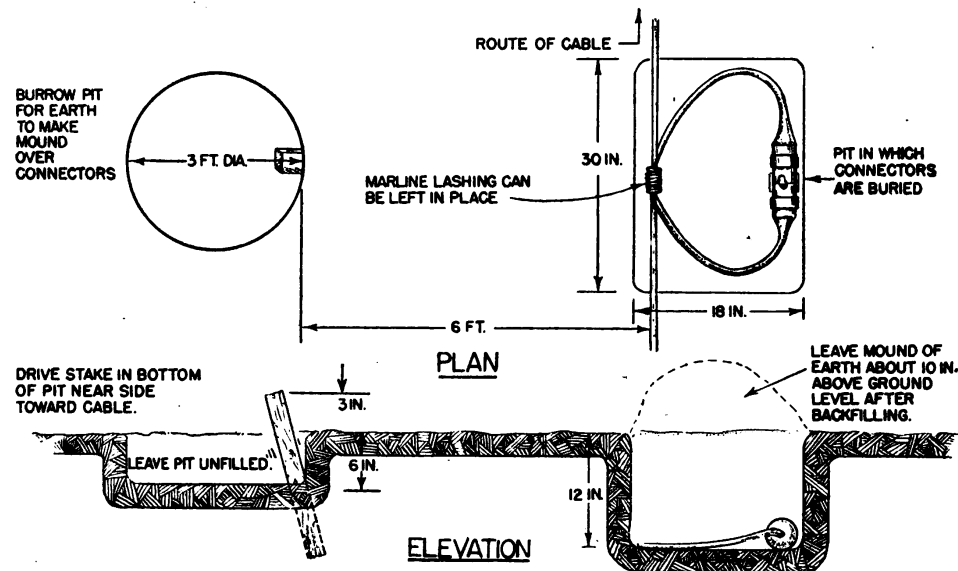

Figure 6. Method of marking splices and connectors.
(1) To make delays as short as possible when replacing damaged lengths of wire or cable.
(2) Testing.
(3) Emergency talking connections.
(4) Recovery of cable.
b. METHOD. Markers and stakes used for indicating the location of splices and connectors are often displaced, removed, or overgrown. The following method of marking locations (fig. 6) is outlined:
(1) At the splice point, dig a hole about 30 inches long, 18 inches wide, and 12 inches deep.
(2) Place the slack, or loop of the wire or cable in this hole. If marline has been used to hold the loop during plowing operations, do not remove it. However, if clamps have been used, remove them.
(3) Fill the hole with the earth that has been removed.
(4) Place additional earth up over the splice, obtaining this earth from a hole dug 6 feet off the line directly opposite the mound. This second hole should be about 3 feet in diameter and about 6 inches deep. Do not refill it.
(5) In the unfilled hole at the edge of the nearest cable, drive a wooden stake so that about 9 inches extend above the bottom of the hole. The stake should be long enough so that it cannot be easily knocked over.
(6) Marks such as the mound, the hole, and the stake will remain distinguishable long enough to make it possible to find the splice or connectors without much trouble. When required, coded information about the splice, its number, and the distance from the terminal can be written on a wooden stake with a soft pencil or crayon.